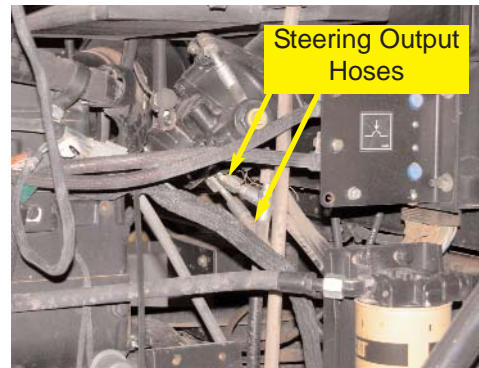

Figure 5b. Location of steering output hoses.
- b. Locate the bottom two hoses on the manual steering valve. (Figure 5b.)